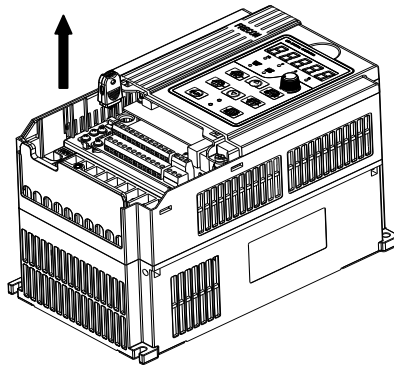

Figure B-4 Uploading and downloading module removal
Step 4 : Unplug upload and download module from the inverter control board (As shown in figure B-4) .